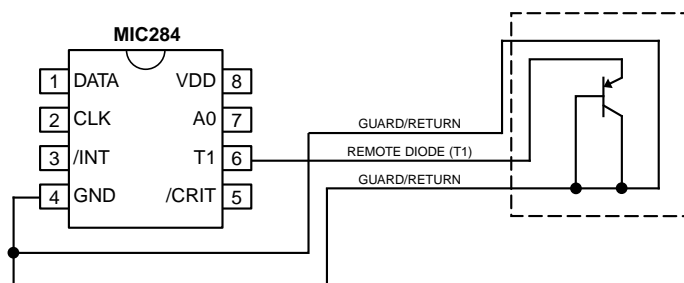

Figure 6. Guard Traces/Kelvin Ground Returns
2. Since any conductance from the various voltages on the PC Board and the T1 line can induce serious errors, it is good practice to guard the remote diode's emitter trace with a pair of ground traces. These ground traces should be returned to the MIC284's own ground pin. They should not be grounded at any other part of their run. However, it is highly desirable to use these guard traces to carry the diode's own ground return back to the ground pin of the MIC284, thereby providing a Kelvin connection for the base of the diode. See Figure 6.
3. When using the MIC284 to sense the temperature of a processor or other device which has an integral thermal diode, e.g., Intel's Pentium III, connect the emitter and base of the remote sensor to the MIC284 using the guard traces and Kelvin return shown in Figure 6. The collector of the remote diode is typically inaccessible to the user on these devices. To allow for this, the MIC284 has superb rejection of noise appearing from collector to GND, as long as the base to ground connection is relatively quiet.